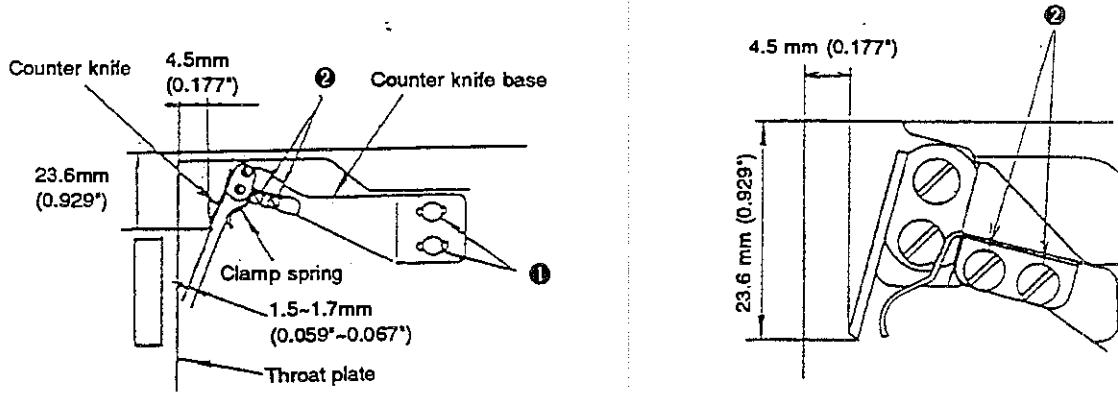
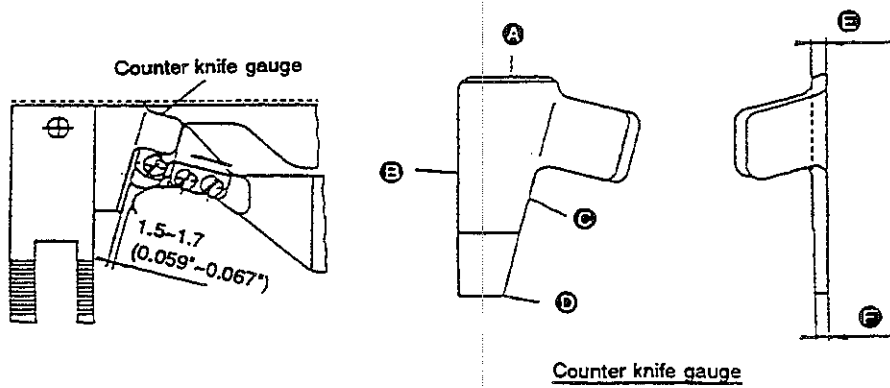

Fig. 1
Fig. 2
<p>1) Counter knife</p> <p>(1) Loosen attaching screw ❶ in the counter knife base. (Fig. 1)</p> <p>(2) Bring the counter knife to the position shown in Fig. 1 using the counter knife gauge supplied with the machine. At this time, adjust the counter knife gauge so that section ❸ of the counter knife gauge should come in contact with the attaching groove on the bed slide plate, and section ❹ should come in contact with the end face of the throat plate. (Fig. 1 and Fig. 2)</p> <p>(3) Move the counter knife base to adjust so that the counter knife comes in contact with sections ❺ and ❻ of the counter knife gauge. Then, tighten attaching screw ❶.</p>	<p>If dimension A is larger than the specified value (4.5 mm (0.177")):</p> <ul style="list-style-type: none"> • Knife pressure will be higher. As a result, the motor may be unnecessarily stopped. <p>If dimension A is smaller than the specified value (4.5 mm (0.177")):</p> <ul style="list-style-type: none"> • Knife pressure will be lower, resulting in thread breakage. <p>If dimension B is larger than the specified value (23.6 mm (0.929")):</p> <ul style="list-style-type: none"> • The length of bobbin thread to be clamped will be shortened, resulting in stitch skipping. <p>If dimension B is smaller than the specified value (23.6 mm (0.929")):</p> <ul style="list-style-type: none"> • Thread trimming failure may result.
<p>2) Clamp spring</p> <p>(1) Loosen attaching screw ❷ of the clamp spring. (Fig. 1)</p> <p>(2) Adjust the clearance provided between the clamp spring and the counter knife by sliding the clamp spring along the surface of the counter knife installing base on which the clamp spring is to be attached. At this time, adjust the clearance using sections ❸ and ❹ of the counter knife gauge. Thickness of section ❸ is 1.7 mm (0.067") and that of section ❹ is 1.5 mm (0.059"). Adjust the position of the clamp spring so that section ❸ of the gauge does not smoothly pass through the clearance provided between the clamp spring and the counter knife and so that section ❹ of the gauge smoothly pass through it.</p> <p>(3) Tighten attaching screw ❷ of the clamp spring. (Fig. 2)</p>	<p>If the clearance provided between the clamp spring and the counter knife is too large:</p> <ul style="list-style-type: none"> • Bobbin thread clamping failure may result. <p>If the clearance provided between the clamp spring and the counter knife is too small:</p> <ul style="list-style-type: none"> • The clamp spring may clamp the needle thread. This means that the material may not be taken out from the sewing position with ease. As a result, the bobbin thread clamped may be removed together with the material.